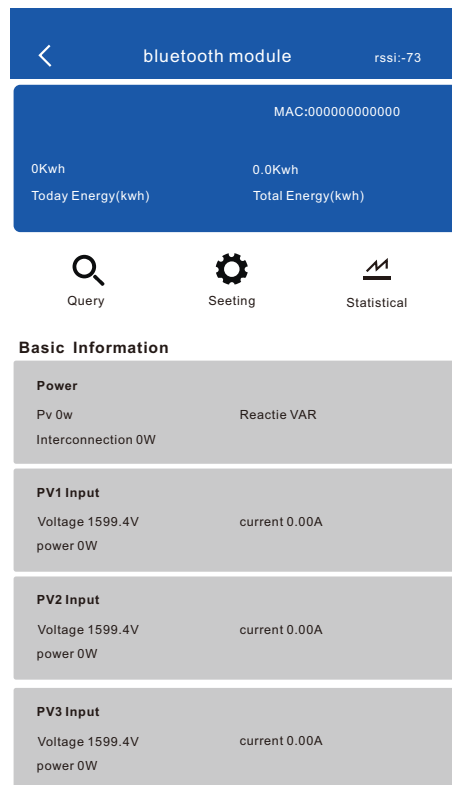

Fig.13
④. Click the name of bluetooth in the list and connect bluetooth, and it enters the interface in Figure 13 after successful connection. This page will display the basic information of the device, and users can view and set the information by clicking the icons of query, settings and statistics on this page.